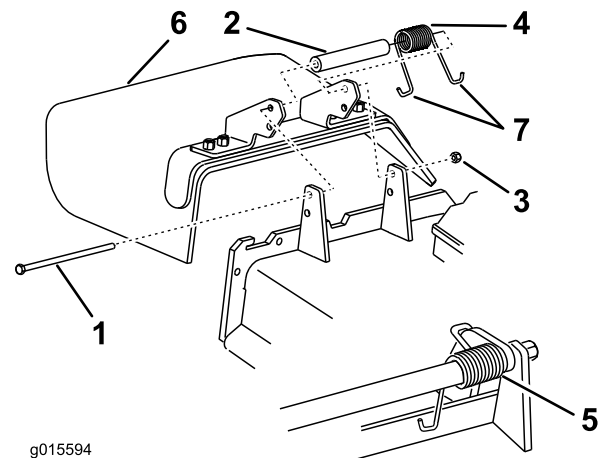

Figure 85
Note: Make sure one J-end of the spring is installed behind the deck edge before installing the bolt as shown in Figure 85.
6. Place one J-hook end of the spring around the grass deflector (Figure 85).